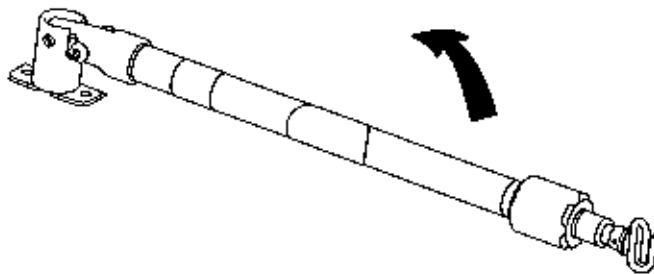

Figure 86
1. Lift and pivot the pole from the storage position and push down until it is locked into the receptacle (A).
2. To raise the height of the pole, turn the lock actuator (B) counterclockwise and pull up on the telescoping portion (C) of the pole to raise it to the desired height.
3. Turn the lock actuator (B) clockwise to lock the telescoping portion in place.
4. Hang the I.V. bags on the I.V. hook (D).
5. Turn the lock actuator (B) counterclockwise and slide section (C) into the bottom tube.
6. Turn the lock actuator (B) clockwise to tighten.
7. Lift up and pivot the pole down into the storage position (see Figure 86).